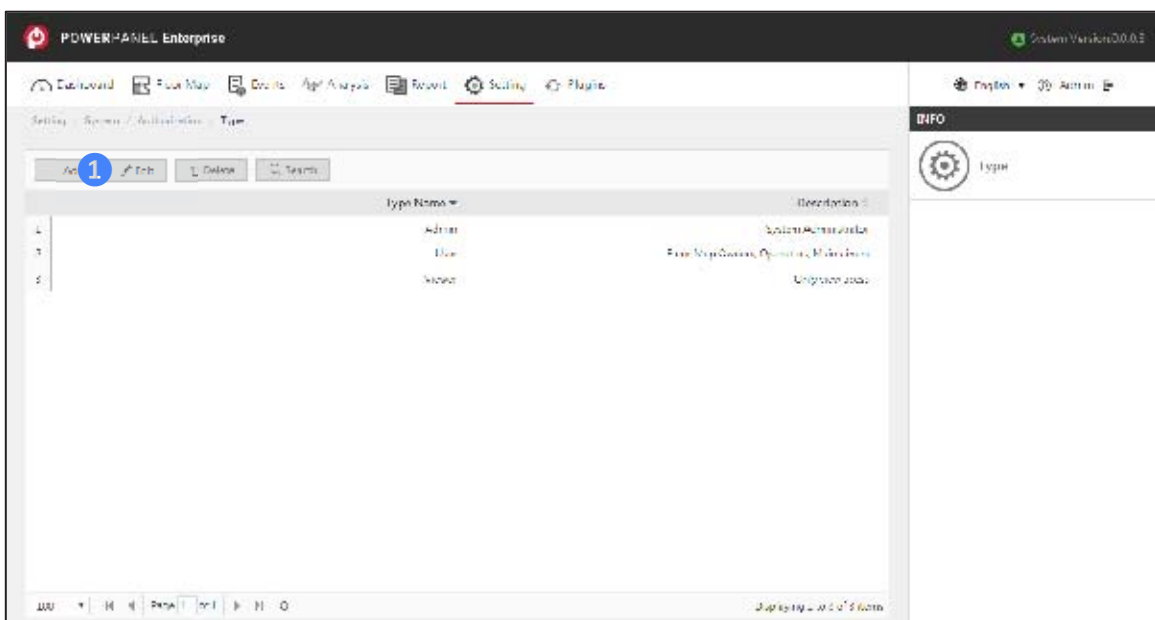
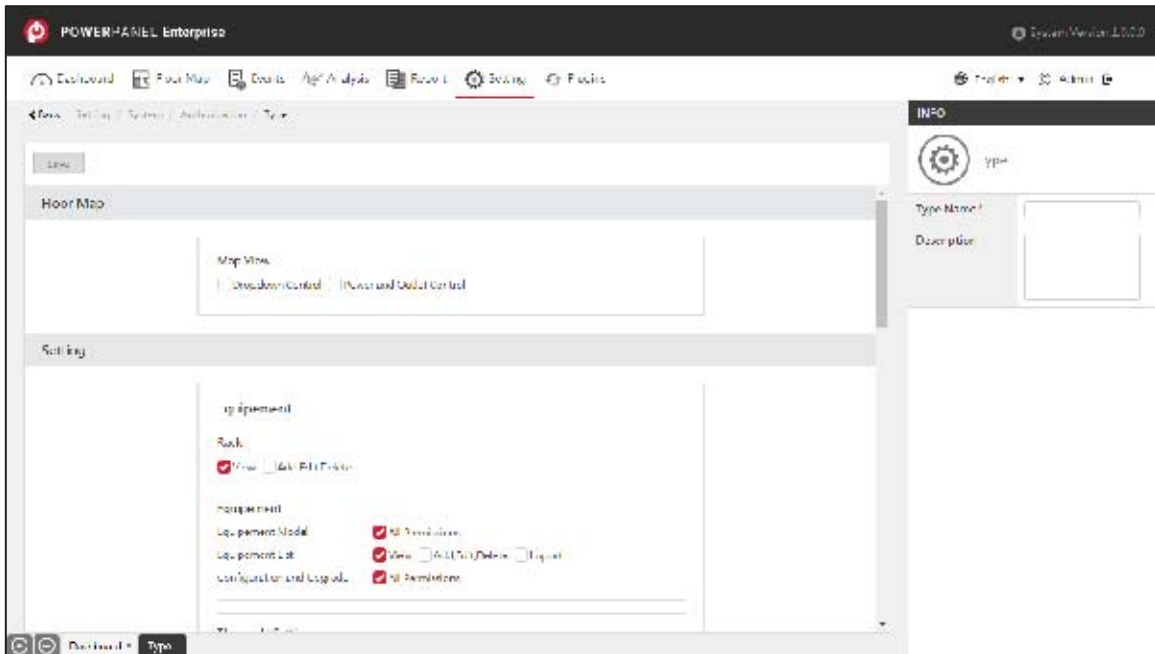

Figure 12.18 Type
Figure 12.19 Add an Authorization Type
The Type page displays the list of authorization types (Figure 12.18).
Click “Add” (1) in Figure 12.18) to create a new authorization type to set visible pages and function buttons in the system (Figure 12.19). The function details are described in Table 12.14 and the contents are shown in Table 12.15.